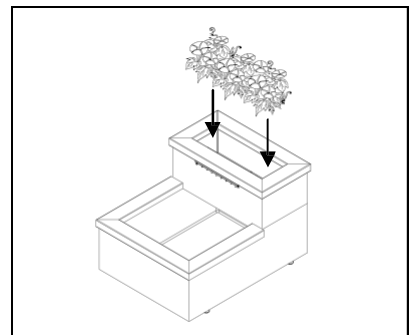

Fig. 15
15. Place plants in the planter basket. Fig. 15